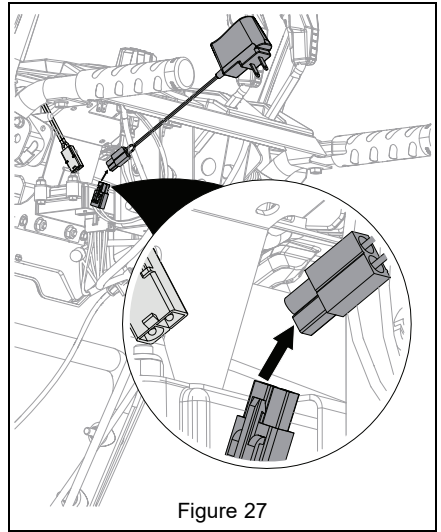

Figure 27
2. Connect battery connector to charger. See Figure 27.